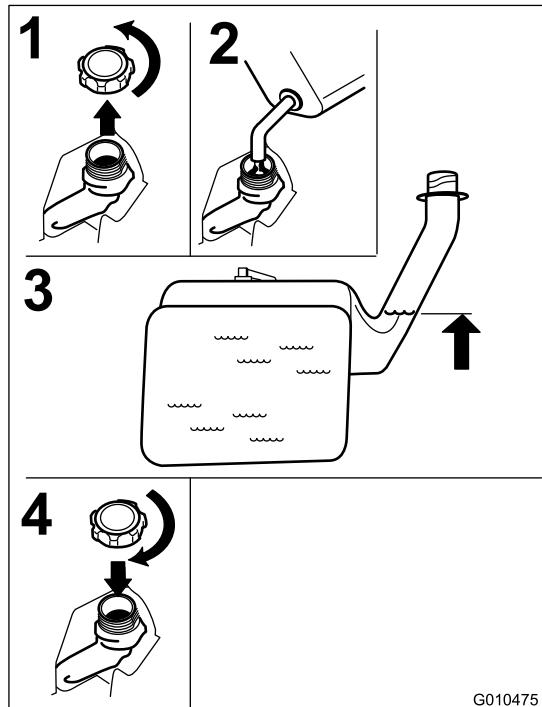

Figure 13
2. Slowly add regular, unleaded gasoline until the fuel reaches the base of the filler neck Figure 13.